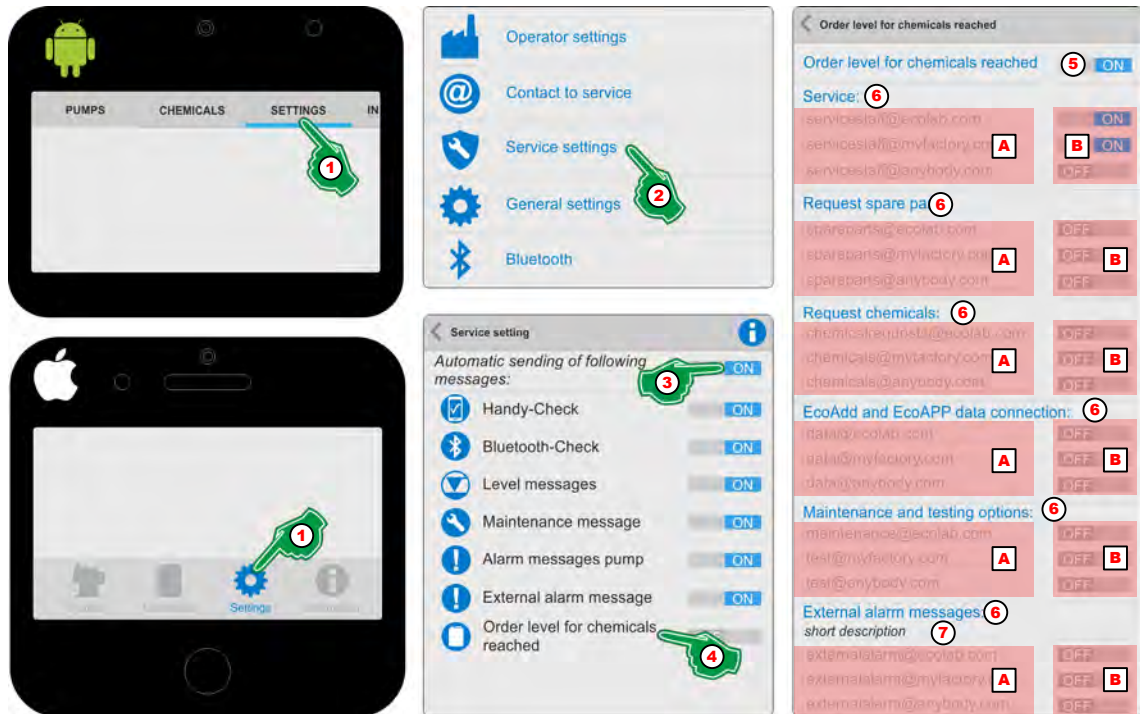

Fig. 51: ‘Order level for chemicals reached’
1. ➤ Select [Settings] (Fig. 51, Pos. 1).
2. ➤ Select [Service Settings]  (Fig. 51, Pos. 2).
3. ➤ Turn on ‘Automatic sending of following messages’ (Fig. 51, Pos. 3) **ON**.
4. ➤ The symbol or designation ‘Order level for chemicals reached’  (Fig. 51, Pos. 4).
5. ➤ Turn on ‘Order level for chemicals reached’ (Fig. 51, Pos. 5) **ON**.
6. ➤ Turn on desired service contacts (Fig. 51, Pos. A) **ON** (Fig. 51, Pos. B) .
7. ➤ To display errors when using an external controller (Fig. 51, , Pos. 7) introduce a brief description (Fig. 51, Pos. 8) for identification.